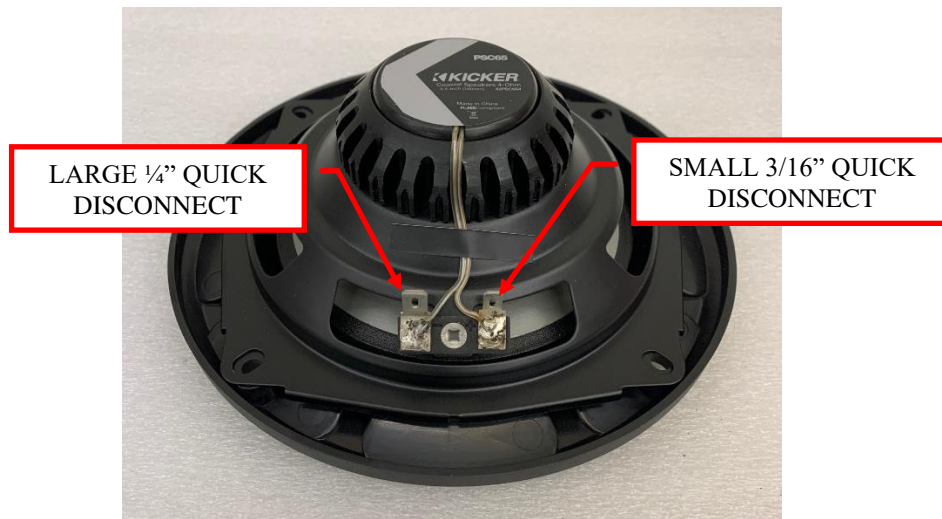

Figure 8: Speaker wire orientation.
8. Re-install the speakers. Be sure to place the large quick disconnect on the 1/4" speaker tab and the small quick disconnect on the 3/16" speaker tab. Re-use the Philips head screws you removed previously. Do not over torque the speaker screws with an impact driver (hand tighten only). See Figure 8.